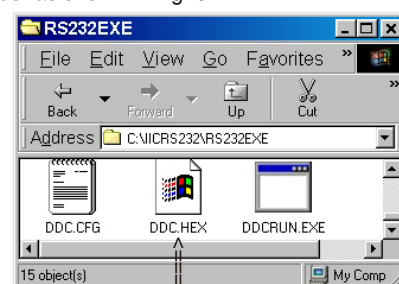

Fig. 6
- Make a directory and copy "DDCRUN.EXE", "DDC.CFG", "DDC.HEX" into folder as shown in Fig. 6.